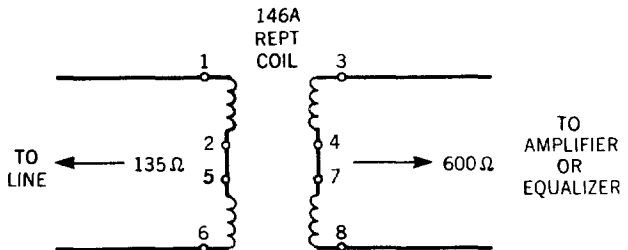

Fig. 5 – Strapping for 146A Repeating Coil
3.04 The strapping for the 146A Repeating Coil is shown in Fig. 5 below. This coil is used with the L2 and L3 Amplifiers as the input and output transformer. Hence, two are required per amplifier. The coil is connected to the input terminals as specified above. However, the output connections for the L2 Amplifier are different. Terminal 8 of the 146A Repeating Coil is connected to a 300-ohm resistor which, in turn, is connected to output terminal 13 of the List 2 Amplifier. Terminal 3 of the coil is connected to output terminal 12 of the List 2 Amplifier. Terminals 3 and 8 of the coil are connected to output terminals 12 and 13 of the List 3 Amplifier as previously indicated.